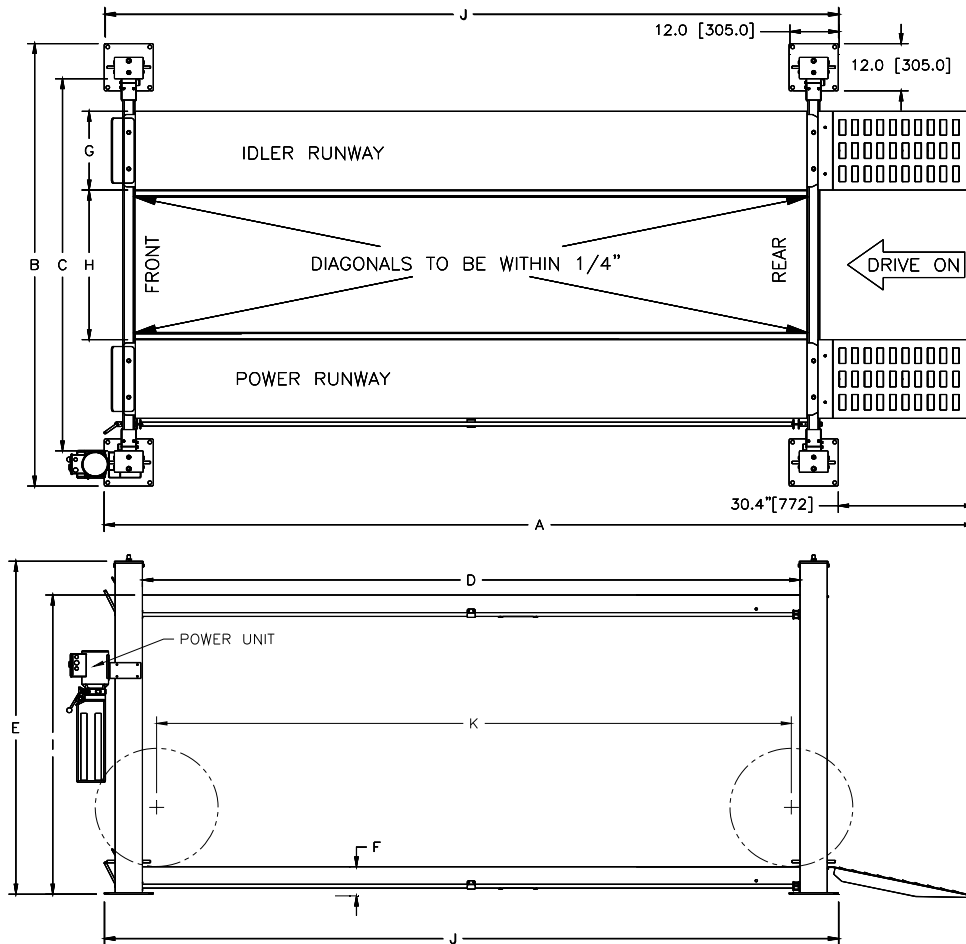
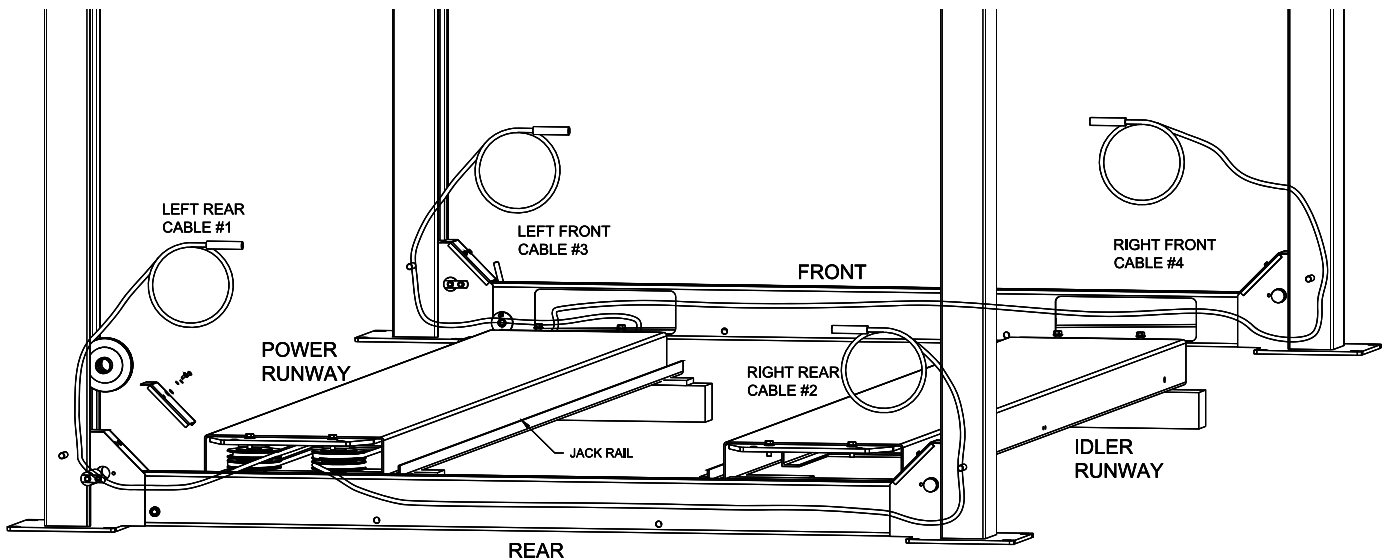

Fig 1 – General Specifications and Service Bay Layout
Fig 7 – Runway Layout
- 1) Lay out the service bay according to the architect's plans or owners instructions (**see Fig 1**). Be certain that the proper conditions exist, see pages 2 & 3.
- 5) Disassembly each column assembly place the columns close to each corner per layout (column with the power unit bracket goes at the front left column per **Fig 1**).
- 6) With the runways spaced per **Fig 1** and blocked per **Fig 7**, using four 30" long 4x4's spanning the width of the runway and four 12" long 1x4's to shim up the jack-rail side of the runway.
- 10) Cable #1 & #2 should be extending out from the rear of the power runway and cable #3 & #4 from the front of the power runway, **Fig 7**.
- 11) Position the front and rear cross beams, **Fig 7**.